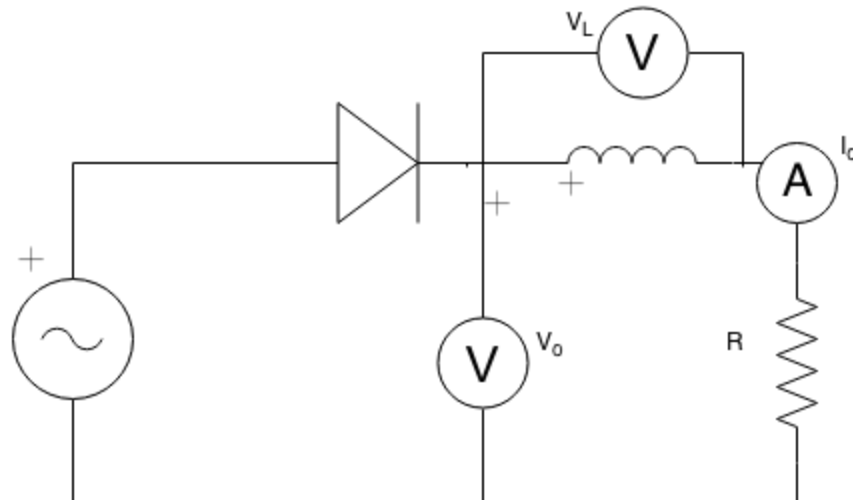

Figure 2
1. A circuit was built using an $R=50\Omega$ resistor (See Figure 2).